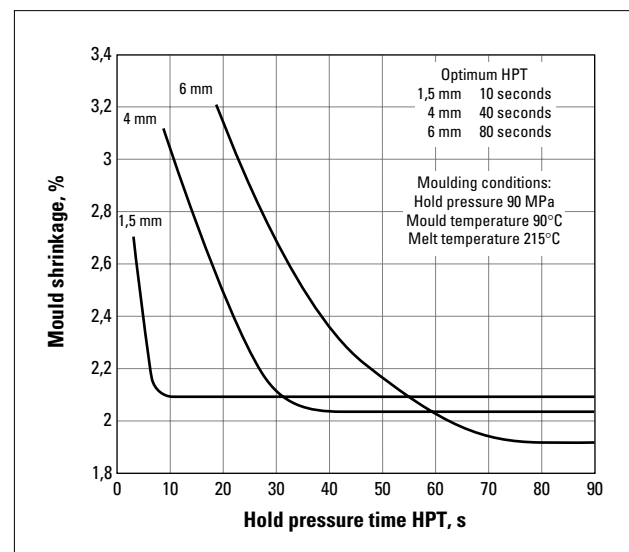
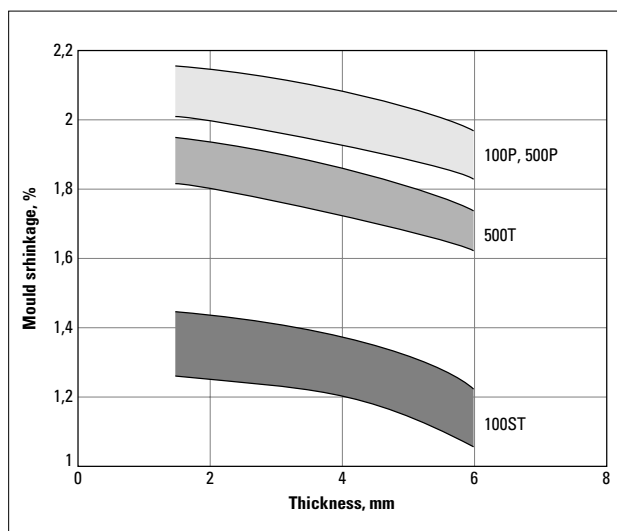

Fig. 6.02 Effect of Hold (Pressure) Time on mould shrinkage of DELRIN® 500P
Fig. 6.03 Average mould shrinkage vs. thickness, for various DELRIN® compositions
Fig. 6.02 shows the effect of HPT on mould shrinkage for DELRIN®.
As shown in Fig. 6.02 for DELRIN® 500, the thickness has a minor influence on mould shrinkage, provided that the gate dimensions and the Hold (Pressure) Time are correct for each thickness. Fig. 6.03 shows the shrinkage of various DELRIN® compositions vs. part thickness, as measured with correct HPT. Note that, to optimise toughness, the mould temperature is reduced from 90° C for the standard grades to 50° C for the toughened grades (without leading to a high post-moulding shrinkage).
When the thickness of the gate is smaller than its optimum value, mould shrinkage will increase due to the premature solidification of the resin at the gate. This situation is then equivalent to a shorter Hold (Pressure) Time, and the approximate effect on shrinkage can be observed on Fig. 6.02. In this range the mould shrinkage is not stable, and it is very difficult to control. The resulting warpage could even make difficult the measurement of certain dimensions of the part.
- Optimum Hold (Pressure) Time for the part thickness, to minimise part shrinkage. The shrinkage increases dramatically with shorter HPT (see Fig. 6.02).